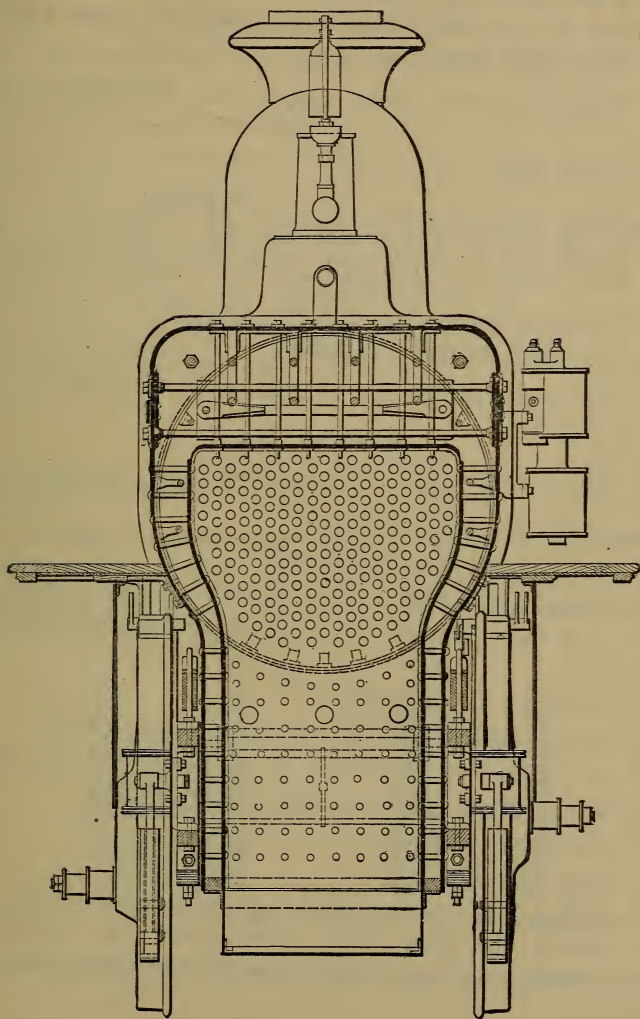

Fig. 50. Cross Section, Pennsylvania R. R. Engine, Class "O,"
A. To a very slight extent their own stiffness; to a very great extent the stay-bolts, extending from the inside to the outside sheets. (See Fig. 50.)